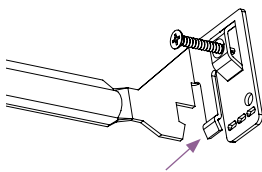

fig. 4
- c. T-Grid ceiling only: Bend the tabs on the nailer bars to lock them to the t-grid. (see fig. 4)